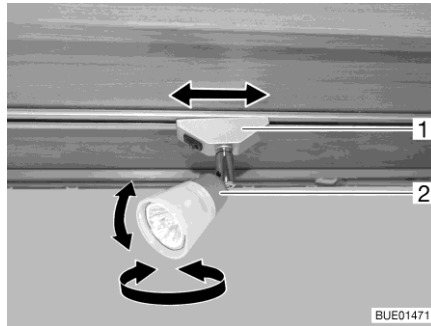

Fig. 43 Spotlight
- Turn housing (Fig. 43,2) of the spotlight to the desired direction. The housing can be turned in following directions:
- Turn holder (Fig. 43,1) through approx. 45°.
- Turn holder (Fig. 43,1) through 90°.